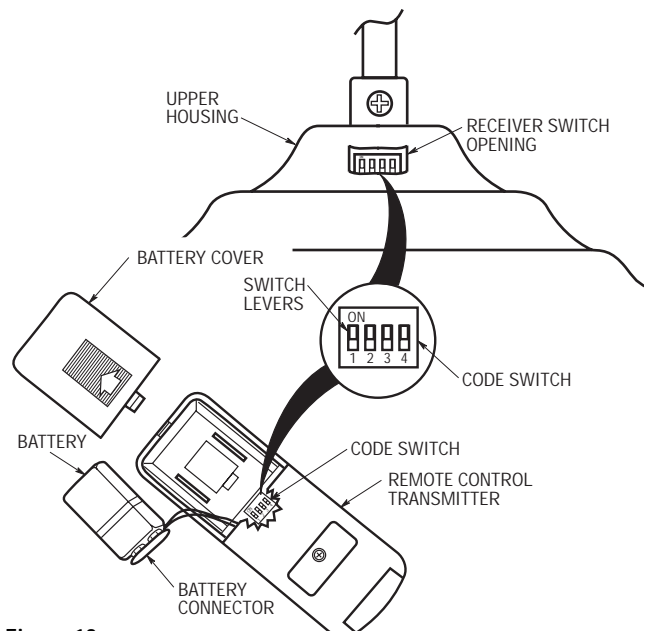

Figure 13
- ☐ 1. Remove battery cover and the battery from the transmitter. Locate the switch with four levers numbered 1, 2, 3, 4, just above the battery compartment (See Figure 13).
- ☐ 1. After electricity has been turned off at the main fuse box, locate the receiver switch opening located on top of the upper housing (Figure 13).
- ☐ 3. Engage the connector in the transmitter with the terminals of a 9-volt alkaline battery (not supplied) (Figure 13).